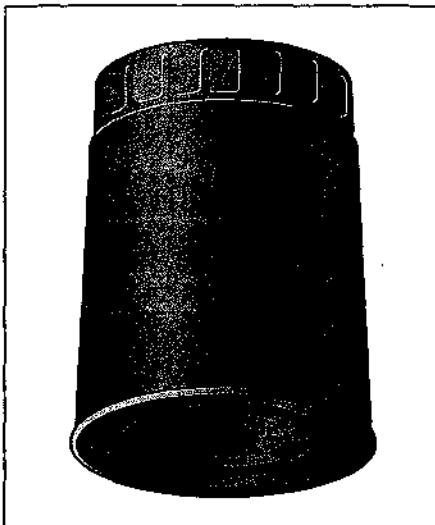

Figure 15-4:
- ✓ An oil filter: Under the hood of your car, sticking out of the engine, is what looks like a tin can screwed into your engine block. This is your oil filter (see Figure 15-4). As the oil circulates from the oil pan through your engine, it passes through this filter, which cleans the oil and removes some of the particles of metal and dirt. You should change the oil filter every time you change your oil, especially if you're going to do so less frequently than every 3,000 miles. Oil filters sell for very little at auto supply stores; at a service station, you'll pay more. Make sure to get the right filter for your car's make and model.